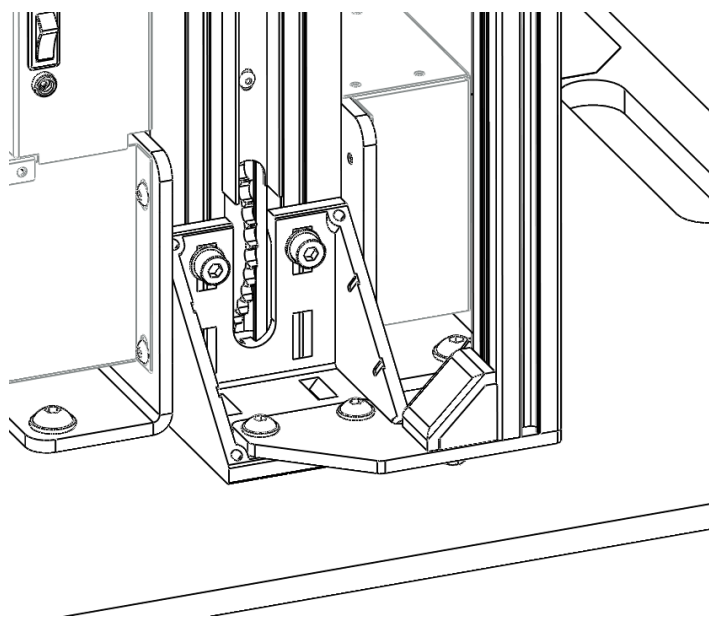

Figure 2
4. Position the vertical support on the bottom holes and insert the two longer M8 screws included with the Support Frame (Figure 2).